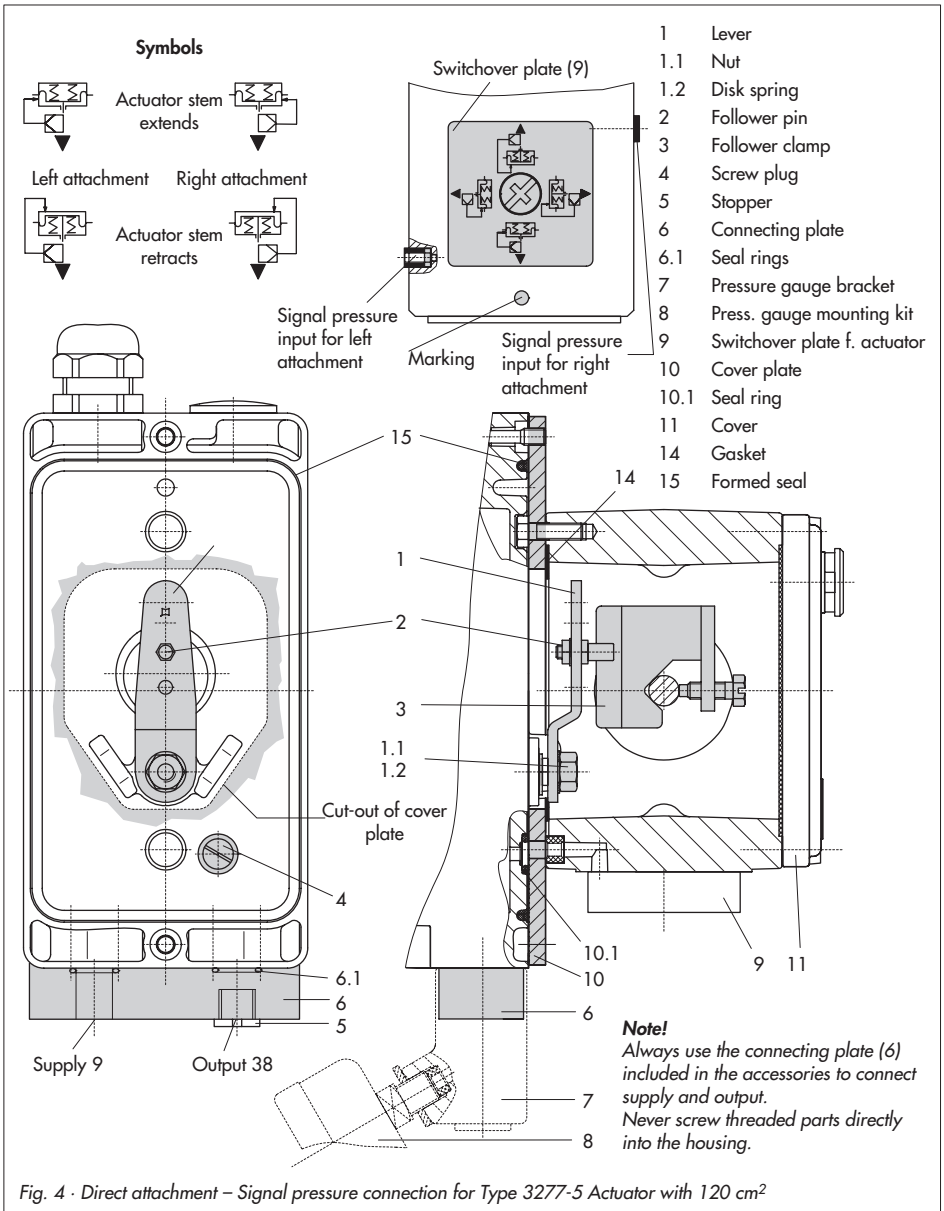

Fig. 4 - Direct attachment – Signal pressure connection for Type 3277-5 Actuator with 120 cm²
1. Mount connecting plate (6) or pressure gauge bracket (7) with pressure gauges onto the positioner, making sure both seal rings (6.1) are seated properly.
2. Remove screw plug (4) on the back of the positioner and close the signal pressure output "Output 38" on the connecting plate (6) or on the pressure gauge bracket (7) with the stopper (5) included in the accessories.
3. Place follower clamp (3) on the actuator stem, align and screw tight so that the mounting screw is located in the groove of the actuator stem.
4. Mount cover plate (10) with narrow side of the cut-out opening (Fig. 4, on the left) pointing towards the signal pressure connection. Make sure that the bonded gasket (14) points towards the actuator yoke.
5. **15 mm travel:** Keep the follower pin (2) at lever **M** (1) on the back of the positioner in the pin position **35** (delivered state).
7.5 mm travel: Remove the follower pin (2) from the pin position **35**, reposition it in the bore for pin position **25** and screw tight.